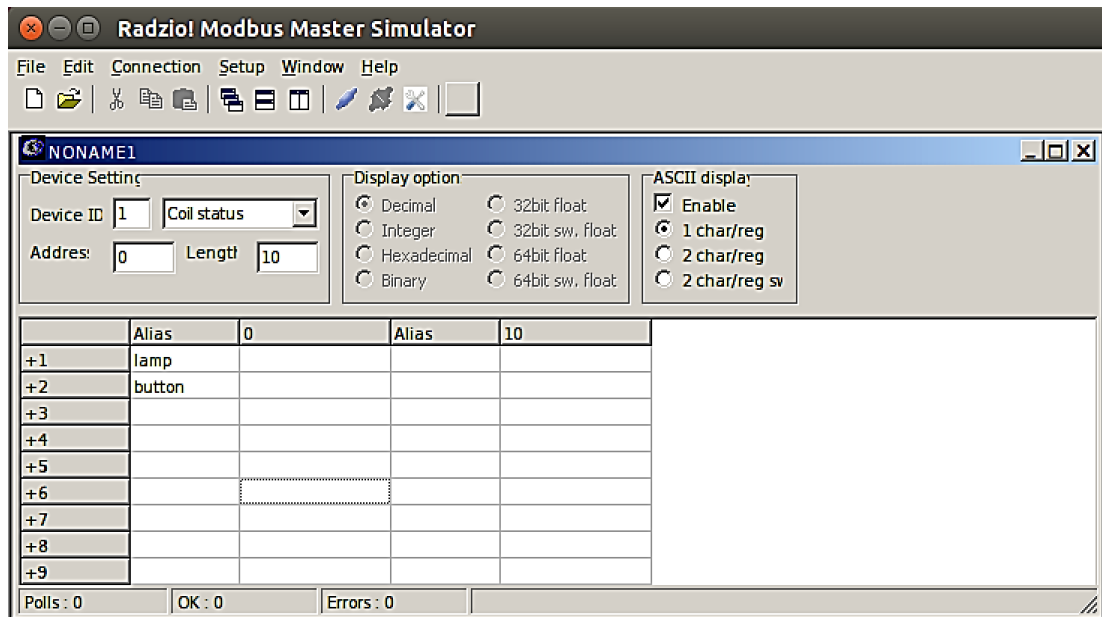

Figure 7. Console interface
4. In the "+2" row (MODBUS address 0 which is the output address `%QX0.1`), enter "button" in the Alias cell (Figure 7).